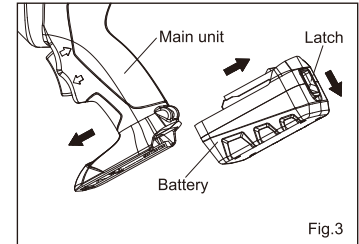

Fig.3
1.1 Remove the battery from the main unit by pressing the latch on the battery. (Push the main unit/Pull the battery) (Fig. 3)